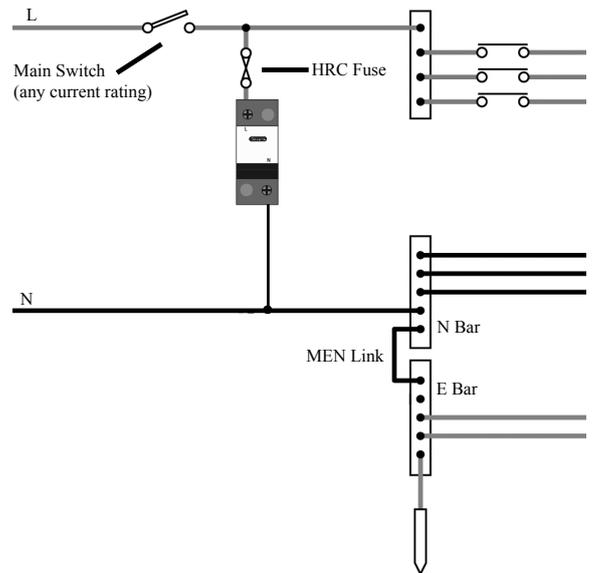
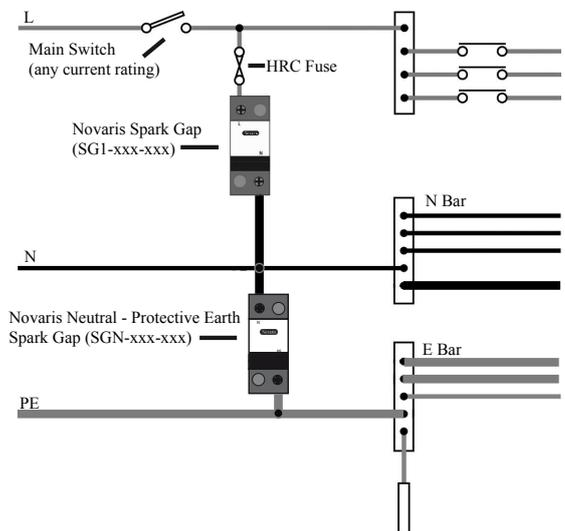

Figure 4: Typical 1 Phase Installation (MEN)
Figure 5: Typical 1 Phase Installation (non-MEN)
- 3.1 **Wiring:** Novaris spark gaps are ideal for point of entry protection. The SG1-xxx-xxx models are designed to be shunt connected between line and neutral (Figure 4). The SGN-xxx-xxx models are designed to be shunt connected between neutral and earth in non-MEN situations (Figure 5).